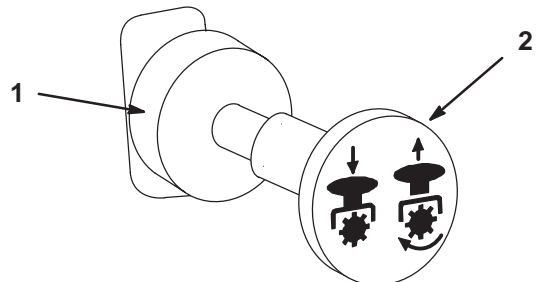

Figure 17
- Pull out on the power take off (PTO) switch to engage (Fig. 17).
- To disengage push the PTO switch to the off position (Fig. 17).